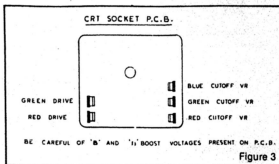

Figure 3
- 4.8 CRT cut off controls (See fig. 3)
- 4.9 Video drive controls (See fig. 3)
1.5 Turn off the green and blue fields and adjust setup controls to produce a red field. (See fig. 3)
- Refer to figure 3. Do the following in subdued light: